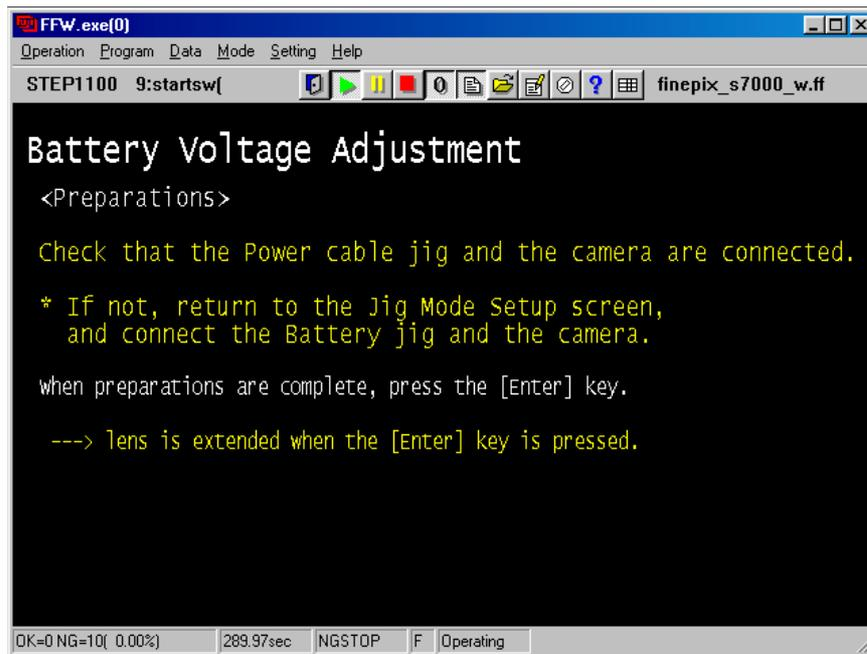

Fig.30
---> The **[Battery Voltage Preparation Screen (Fig.30)]** appears.